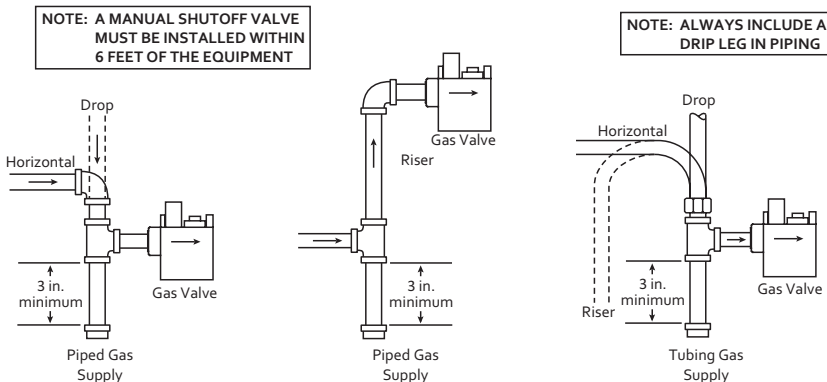

Fig. 2 – Typical Gas Valve Piping
5. Apply pipe joint compound (pipe dope) **that is approved for all gases, only to the male threads of the pipe joints. DO NOT** apply compound to the first two threads (see figure 2 for typical piping connections).